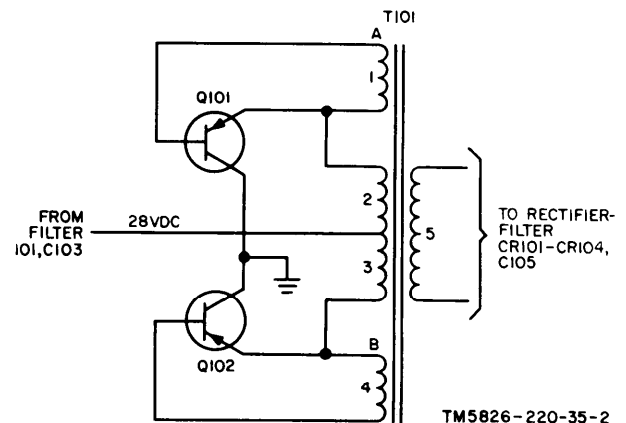

Figure 2. Basic inverter circuit, equivalent schematic diagram.
a. The basic inverter portion of the inverter is shown in the simplified schematic diagram (fig. 2). Assume that at the instant the circuit is energized, a slight imbalance in transistors Q101 and Q102 causes more current to flow in winding 3 than in winding 2 of transformer T101. The increase in current causes flux in the transformer core to begin to change in one direction.